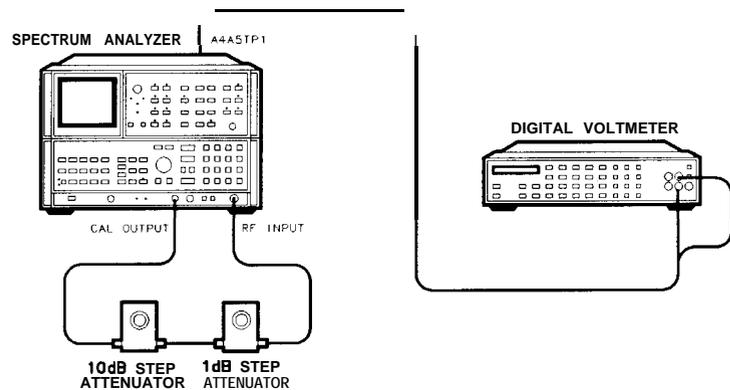

Figure 3-40. 21.4 MHz Bandwidth Filter Adjustments Setup
1. Position instrument upright as shown in Figure 3-40 and remove top cover.